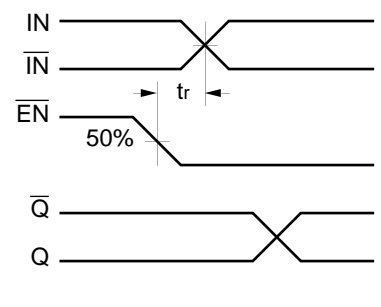

Figure 3. Release Time
7. The release time is the minimum time that \overline{EN} must be de-asserted prior to the next IN/ \overline{IN} transition to ensure an output response that meets the specified IN to Q propagation delay and output transition times (see Figure 3).